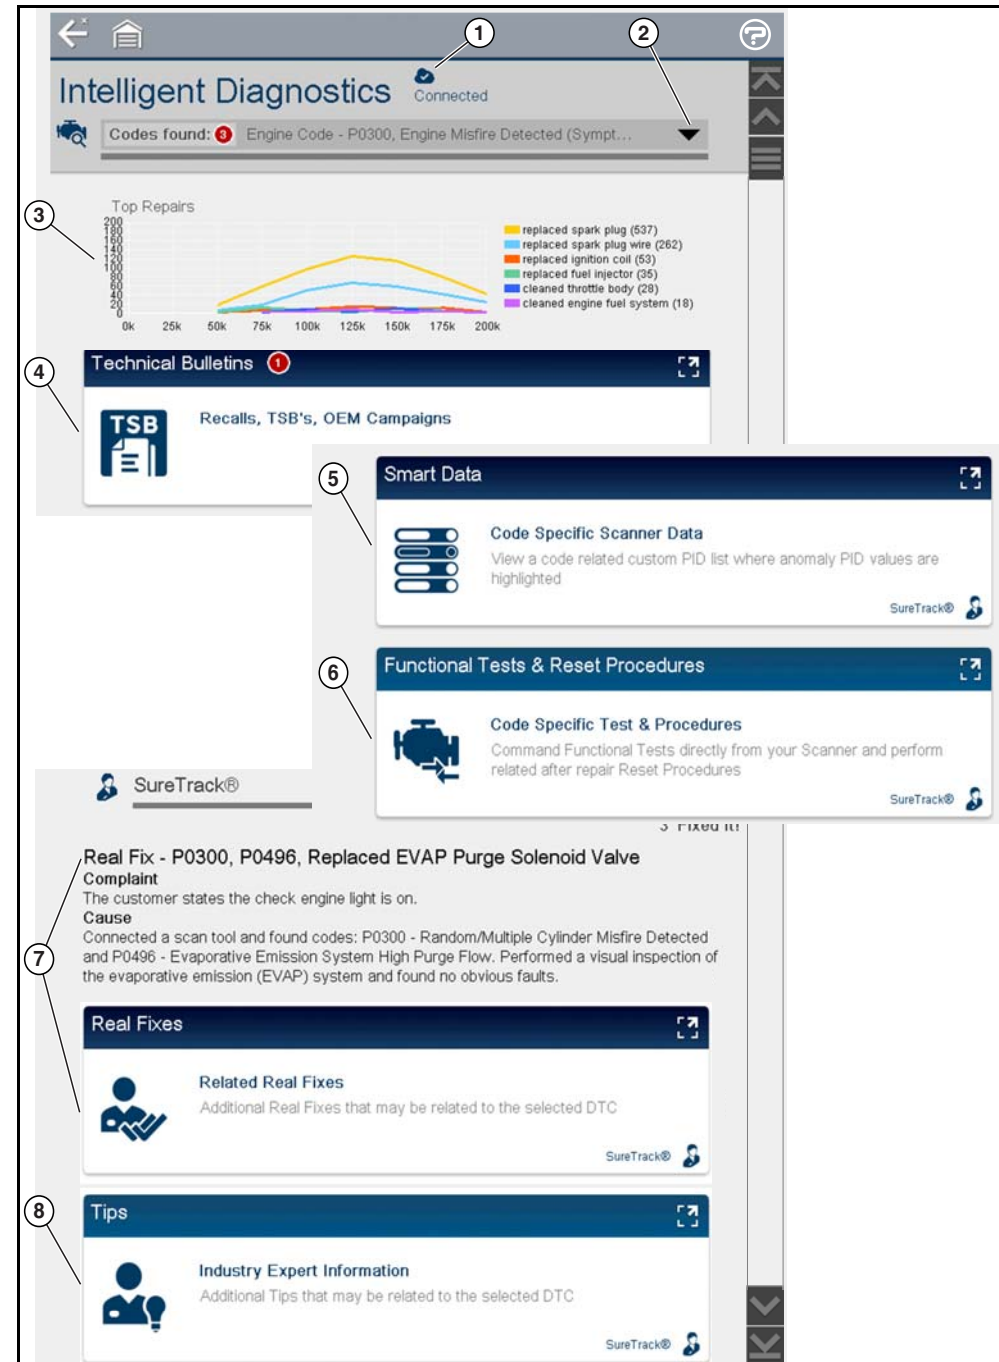

Figure 8-2 Multi-card menu
The following descriptions are used with Figure 8-2.
- 1. Wi-Fi Connection Status Indicator** - A Wi-Fi connection indicator (cloud icon) is provided on the top of the screen (Figure 8-2). This icon is also used to indicate service expiration, the icon changes color to red, and displays the word "Expired" in the event your access has expired.